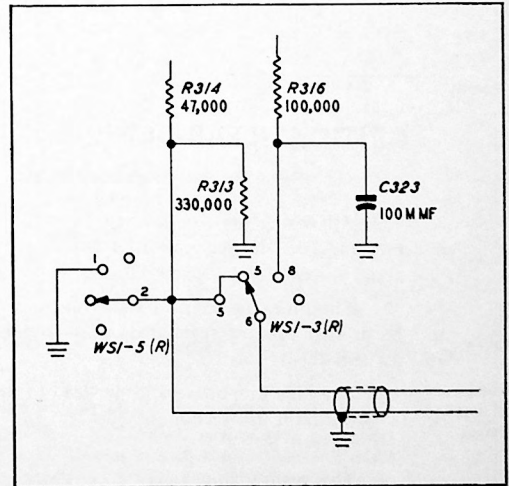

Figure 2.
The switching was removed from the secondary of Z301. C311 is now connected directly to lug 1 of Z301. The removed switch section is now used to ground the AM audio lead when in the FM position. Lug 2 of WS1-5(R) is tied to lug 5 of WS1-3(R), and lug 1 of WS1-5(R) is grounded. See figure 2.